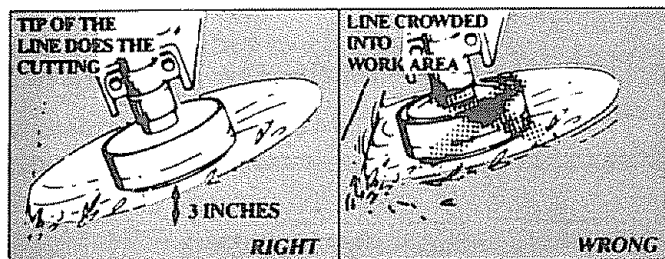

Figure 16
- The tip of the line does the cutting. Allow the line to trim at its own pace. You will achieve better results by not crowding the line into the cutting area. The right and wrong ways are shown in Figure 16.